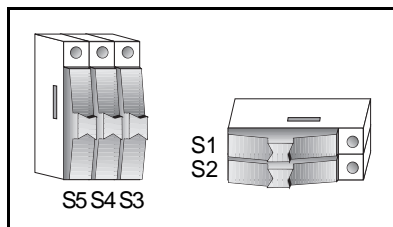

Figure 5. Disabled Temperature Sensor Switch Configuration
- To disable the temperature sensor, set switches S5 and S4 in the down position, as shown in Figure 5. This is the factory default.